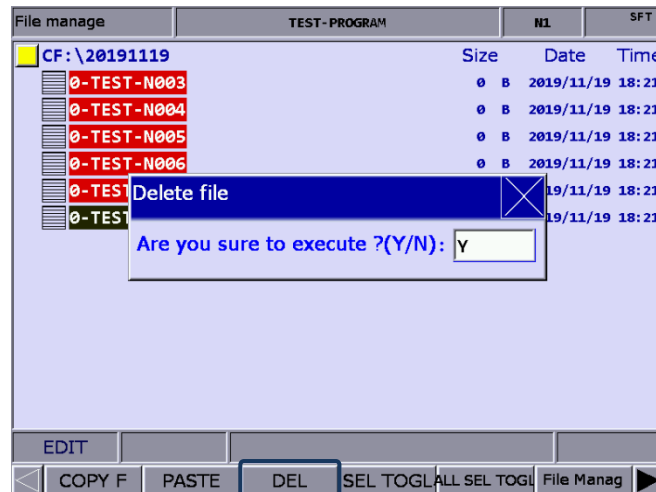

Figure 7.6.3
- (1) Set the system to EDIT mode.
- (2) Press **PRG** to switch to the PRG screen.
- (3) Enter the directory where you desire to select the files.
- (4) In the File manage screen, press **↑** and **↓** or **PAGE UP** and **PAGE DN** to move the cursor to the file to be selected. To select a file, press **SEL TOGL**. To cancel the selection, press **CANCEL**.
- (5) After selecting multiple files, press **DEL**, and a dialog box appears for you to confirm the execution (as shown in Figure 7.6.3). Enter “Y” and press **ENTER** to delete.